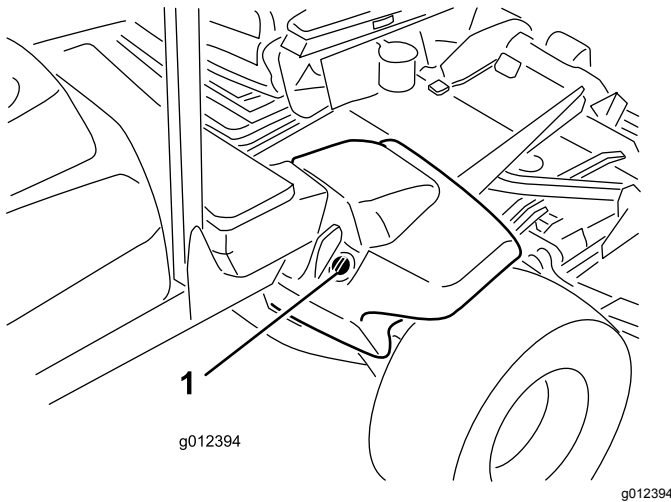

Figure 18
2. Clean the area around the filler neck and cap of the hydraulic tank (Figure 18). Remove the cap from the filler neck.